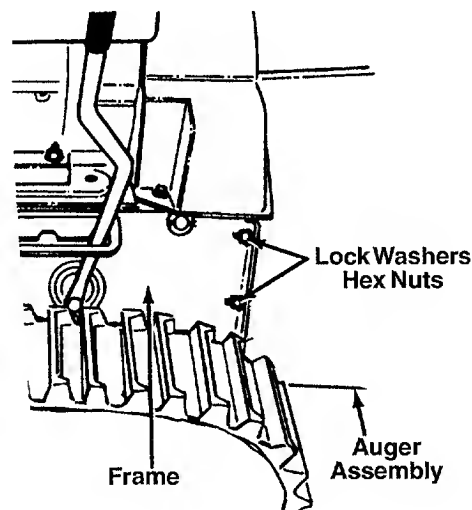

FIGURE 22
- Remove the six lock washers and hex nuts which attach the auger housing assembly to the frame. See figure 22.